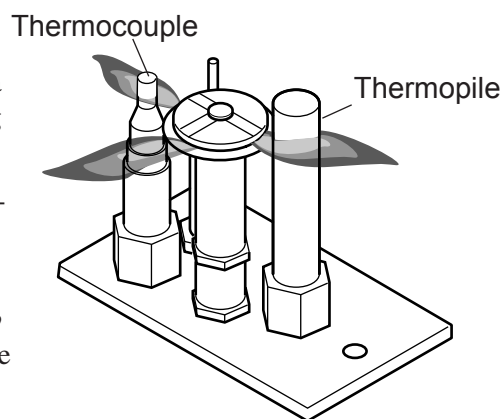

Figure 29 - Before taking unit apart, check pilot flame. Flame should touch thermocouple and thermopile
1. Check pilot flame. Flame should touch approximately $\frac{3}{8}$ " of the top of thermopile and touch top of thermocouple. *See Figure 29.* If not, contact dealer for service.